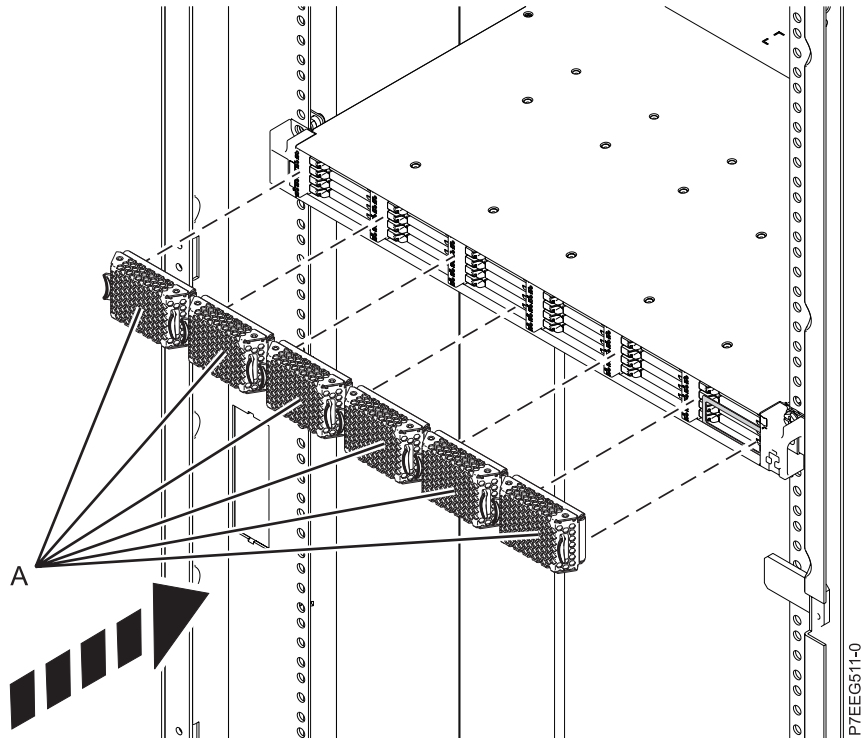

Figure 17. Installing the SSD EMC bezels
- h. Install the six SSD EMC bezels (A) to cover the slots that contain the SSDs, as shown in Figure 17.